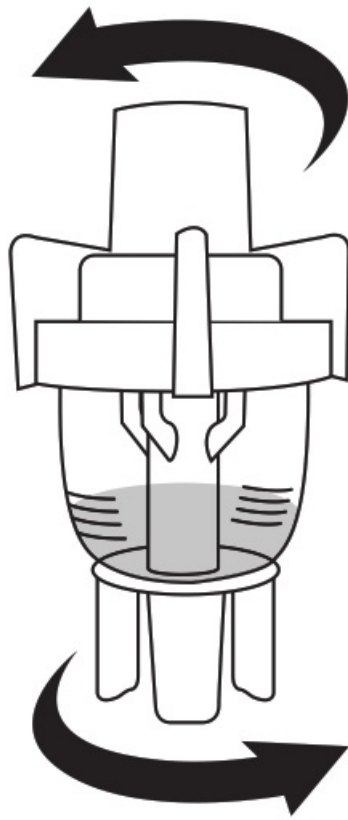

Figure 3
4. Replace the top part of the nebulizer and gently twist clockwise to reassemble the nebulizer . Make sure both sections are connected properly. (fig. 3)